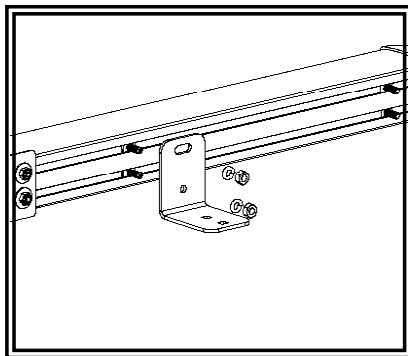

Figure 2
2. Drill the holes for the M6 hex bolts, using the mounting brackets and bolts in the channels for the split arrow light bar, as a template for the proper spacing. See FIGURE 2. Make sure the holes are placed such that the light bar(s) is level side to side.